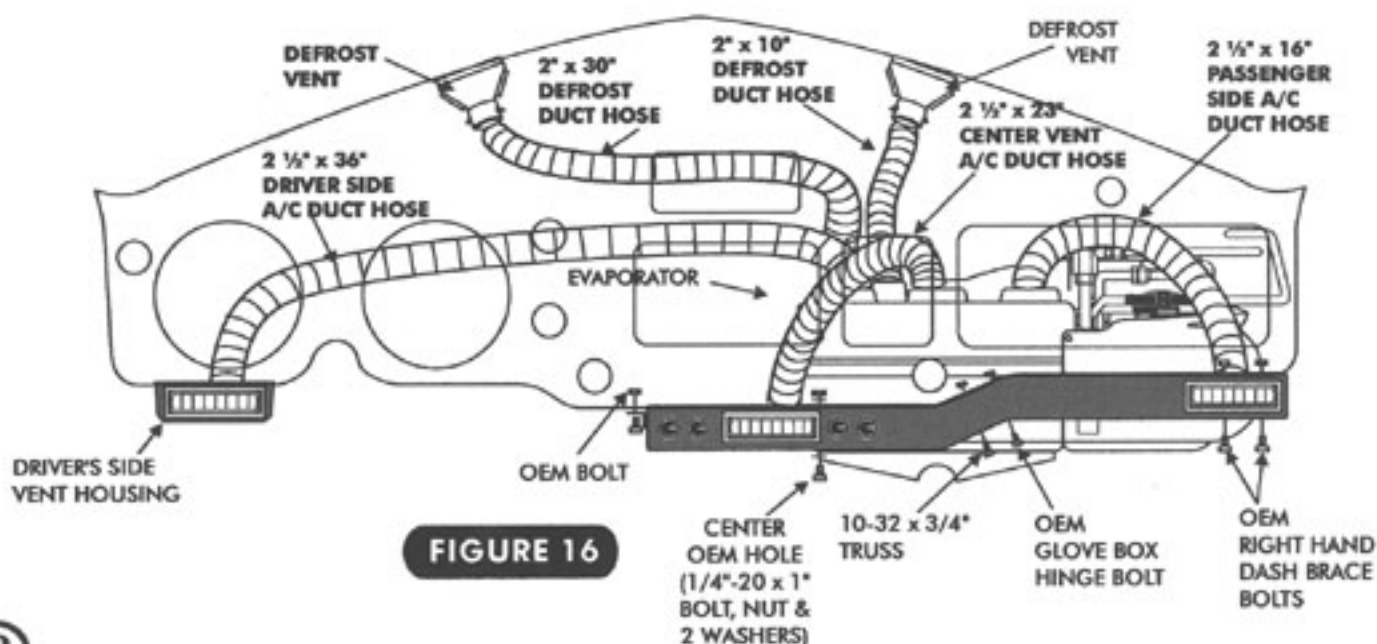

FIGURE 16
- 2. TO INSTALL FRONT EVAPORATOR BRACKET, REMOVE LEFT BOLT FROM DRIVER'S SIDE GLOVE BOX HINGE AND REPLACE WITH (1) 10-32 x 3/4" PHILLIPS TRUSS, AS SHOWN IN FIGURE 16, PAGE 8.
- 3. NOW INSTALL (1) 1/4"-20 x 1" BOLT AND (2) WASHERS IN O.E.M. HOLE IN CENTER OF DASH (INSTALL ONE WASHER ON EACH SIDE OF DASH), AS SHOWN IN FIGURE 16, PAGE 8. WHILE HOLDING BOLT IN PLACE, ALIGN BRACKET WITH BOLTS AND SECURE WITH (1) 1/4"-20 x 1" NUT WITH STAR WASHER AND (1) 10-32 NUT WITH STAR WASHER, AND TIGHTEN.
- 1. REMOVE THE (2) RIGHT HAND DASH BRACE BOLTS & NUTS UNDERNEATH THE BOTTOM LIP OF DASH. SEE FIGURE 16, PAGE 8.
- 2. REMOVE THE (2) BOLTS FROM THE DRIVER SIDE GLOVE BOX HINGE.
- 3. TEMPORARILY INSTALL UNDERDASH PANEL. THE PANEL WILL BOLT TO THE BOTTOM OF DASH THROUGH THE O.E.M. HOLES (SEE FIGURE 16, PAGE 8).
- 5. DRILL THE (2) GLOVE BOX HINGE HOLES ON THE PANEL TO 1/4" AND DRILL THE (2) DASH BRACE HOLES TO 5/16".
- 7. BOLT PANEL TO DASH BY REINSTALLING BOLTS PREVIOUSLY REMOVED, AS SHOWN IN FIGURE 16, PAGE 8.
- 8. INSTALL DUCT HOSES. SEE FIGURE 16, PAGE 8, FOR HOSE ROUTING.